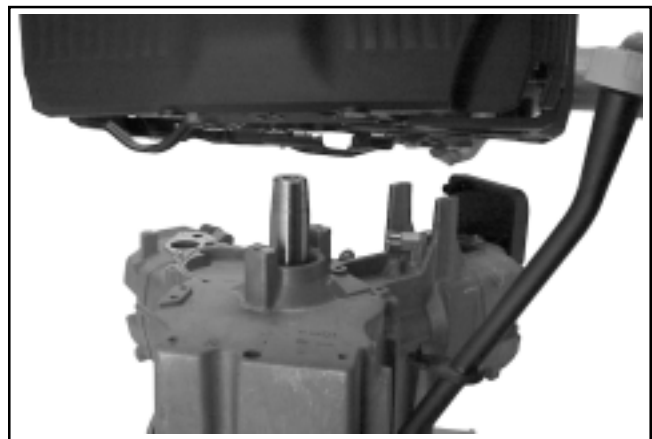

Figure 9-55. Removing Lower Blower Housing.
3. Lift the lower blower housing up and separate the oil fill/dipstick tube from the notch. Remove the blower housing. See Figure 9-55.